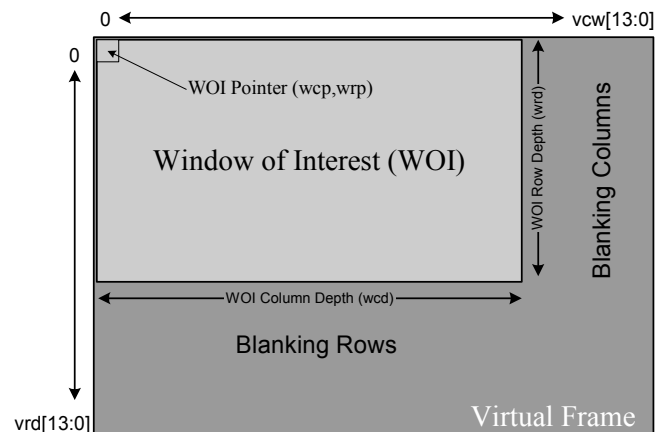

Figure 8: Virtual Frame Definition
Changing the WOI does not change the Frame Rate of the imager. This is done by varying the size of a Virtual Frame surrounding the WOI. Refer to Figure 8 for a pictorial description of the Virtual Frame and its relationship to the WOI.
The VF is a method for defining the horizontal and vertical blanking (over clocking) in Frame Readout. As the WOI is adjusted, the total Frame Size is set by the VF. To maintain constant Frame Rate, the KAC-1310 adjusts the number of blanking pixels to account for changes in the WOI. The VF can be set to any size. If the VF is greater than the WOI then the readout is padded with blanking pixels (invalid dark pixels). The WOI and the VF may both be larger than the actual imager size. In this case the WOI is also padded with blanking pixels (invalid dark pixels). Figure 8 illustrates a WOI smaller than the VF. If the WOI is set larger than the VF, then the WOI will be clipped by the VF and the Frame Rate will still be equal to the VF size.
In CFRS, the Frame Rate of the imager is controlled by varying the size of the Virtual Frame surrounding the WOI, and is independent of Integration Time. Refer to Figure 8 for a pictorial description of the Virtual Frame (VF) and its relationship to the WOI. In CFRS operation, the Frame Rate (FR) (Frame Rate = 1/Frame Time) is defined by the VF size and clock speed (MCLK). The Frame Time (FT) and can be expressed as: